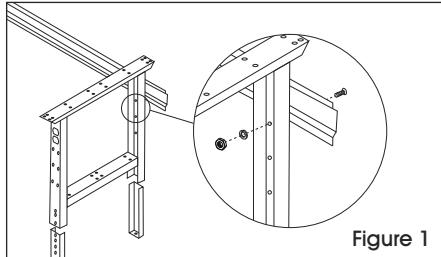

Figure 1
1. Insert adjustable feet (1) into legs (2) and slide into place at desired height.
2. Place legs (2) in upright position. Legs should be placed approximately 53" apart for 60" workstations and 65" apart for 72" workstations. The 96" workstations use three legs that should be placed 45" apart.
3. Attach stringer (3) to legs using center holes in back of legs. Fasten using eight 1/4-20 x 5/8" bolts, lock washers and nuts (12 bolts, lock washers and nuts for the 96" workstation), but do not fully tighten. (See Figure 1)